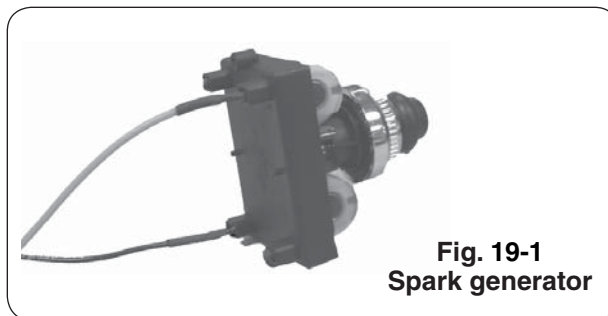

Fig. 19-1
- c. Carefully pull the left end of the backburner forward until the burner can be moved to the left pulling it free from the orifice located on the right side (see Fig. 19-1).
Note: Carefully, lift the face away from the frame. The spark generator for the ignition system is attached to the inside of the face panel. The spark generator knob need not be detached, but the wires must be unplugged from the generator before the face is completely removed (see Fig. 19-1).